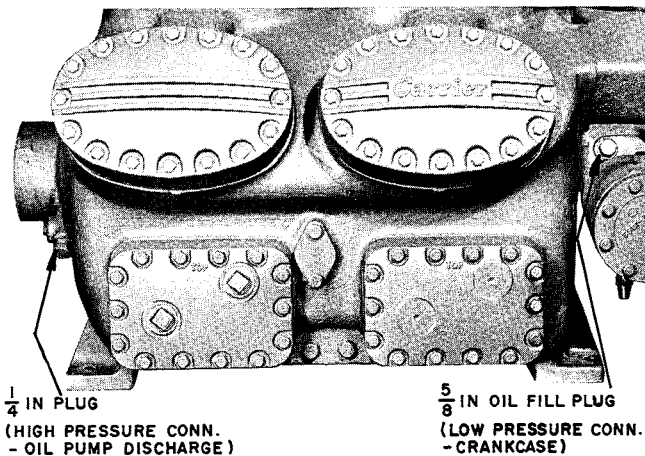

Fig. 4 — 5H120 Connections
5H120 Compressor (see Table 1 and Fig. 4) — Remove oil fill plug and replace with adapter and gasket washer (items 2 and 3). Install flare coupling (item 4) in adapter and connect capillary from low-pressure side of oil safety switch.